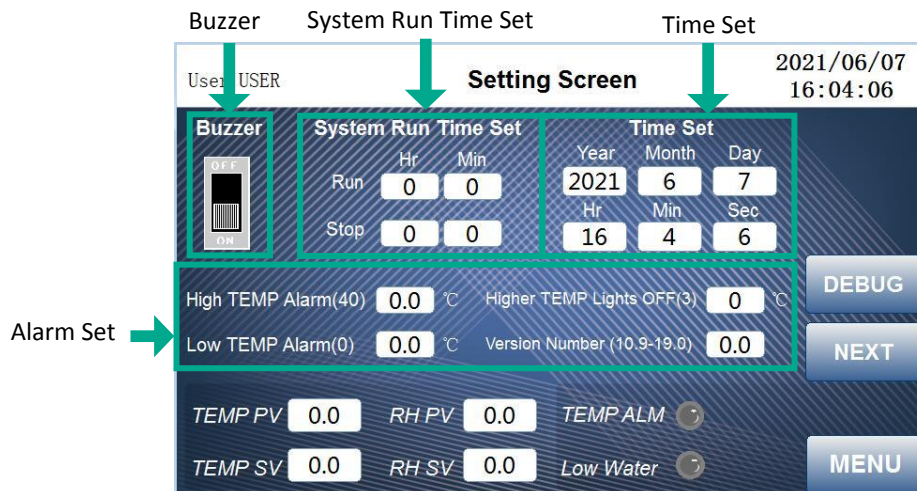

Figure 5-2: Setting Screen
1. Tap the ‘Setting’ icon  to access Setting Screen (Figure 5-2).